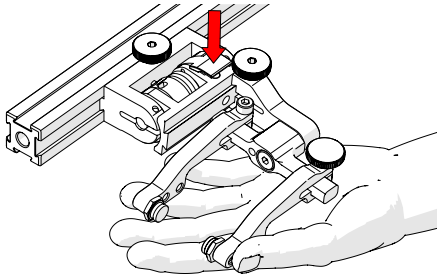

Fig. 199 - Lift slightly and press Latch
1. Ensure the probe holder is in the upright latched position (Fig. 199).
2. Lift probe holder slightly and press the latch button (Fig. 199) to release the probe holder the full 45° degrees.